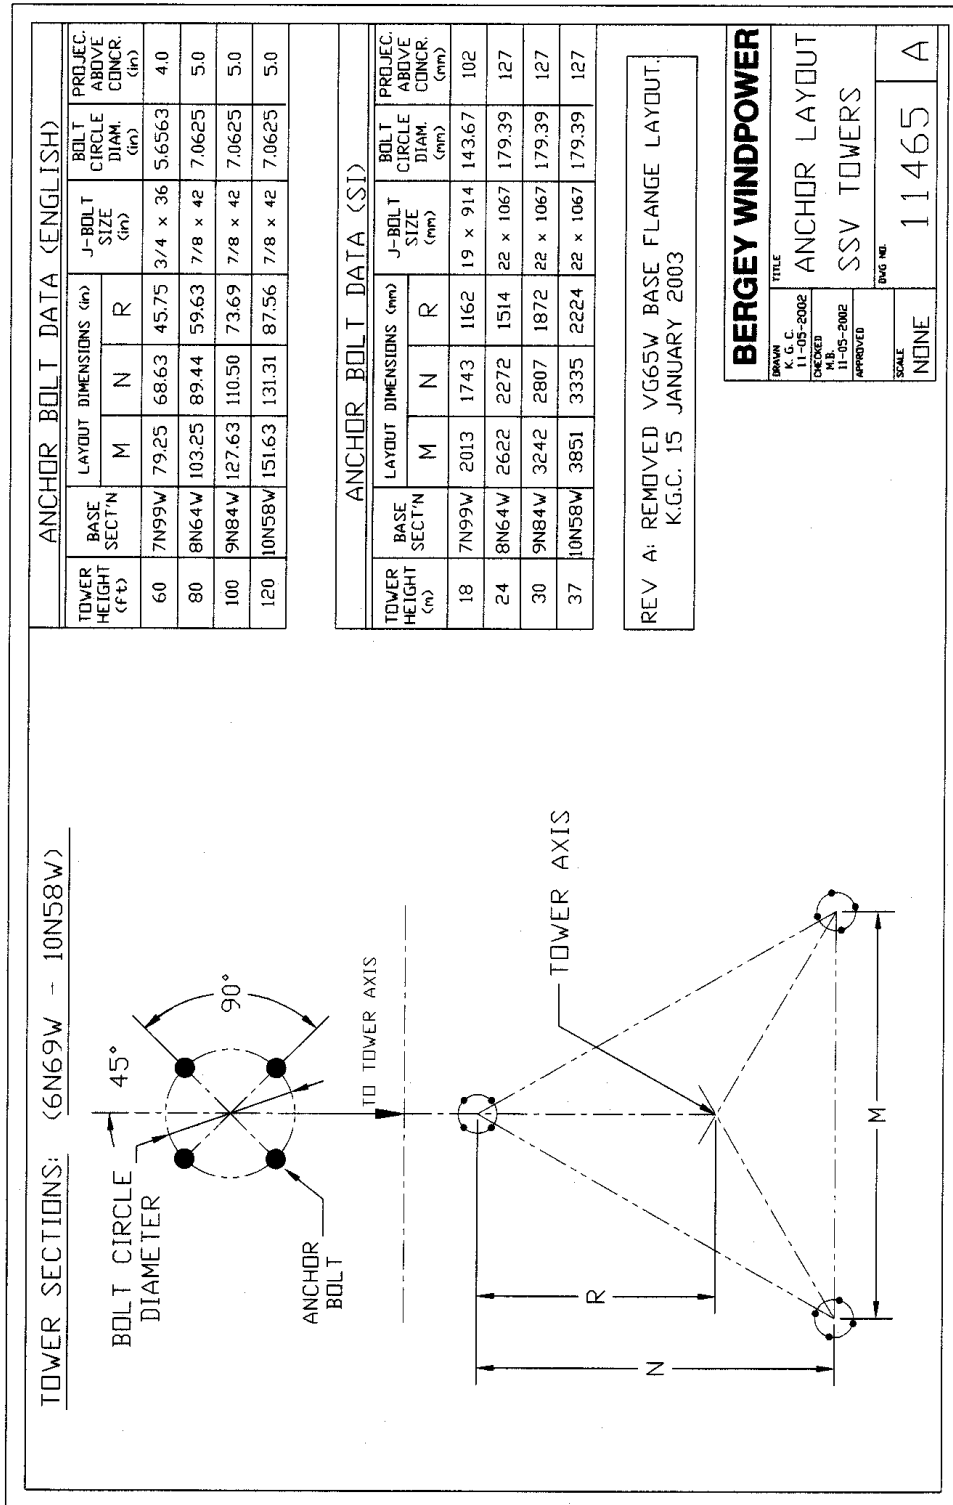

Figure 4. Layout of Anchor Bolts
The required anchor bolt layout is shown in **Figure 4**, Drawing No. 11465. It is important to recognize that tower height is increased, in 20 foot increments, by adding new sections to the base of the tower structure. Each additional section is stronger and heavier, with a larger spread between the tower legs. Foundation size also increases with tower height.
**NOTE: Be sure to follow the anchor bolt layout shown in Figure 4 (Drawing 11465). The EDGE of the tower leg flange faces toward the center axis of the tower.**